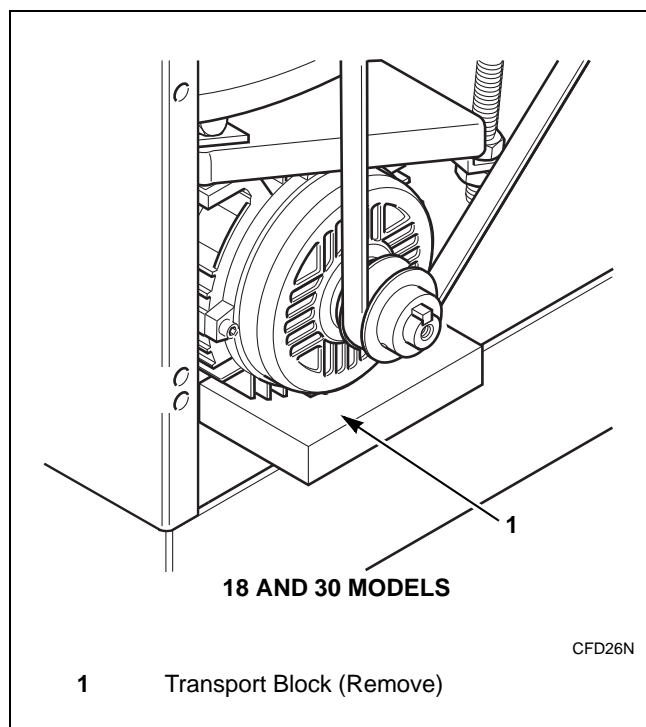

Figure 12
3. For 18 and 30 models, at rear of machine, lift at bottom of motor and remove transport block if present. Refer to *Figure 12*.